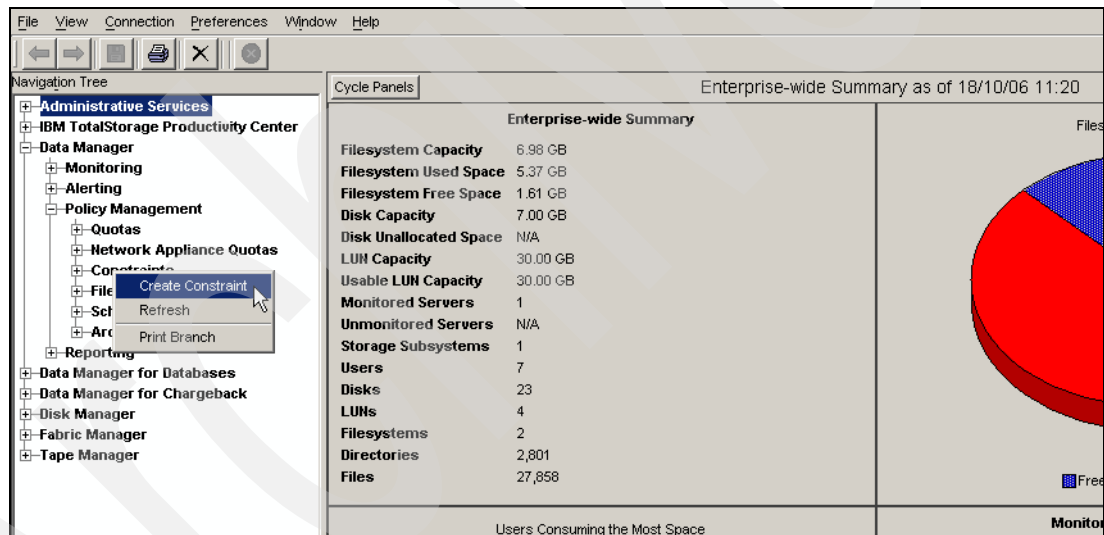

Figure 2-55 Create a constraint
1. Right-click **Constraint** to create a new constraint as in Figure 2-55.